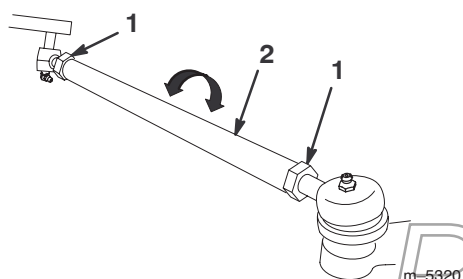

Figure 51
5. If the measurement does not fall within the specified range, loosen the jam nuts at both ends of the tie rods (Fig. 51).